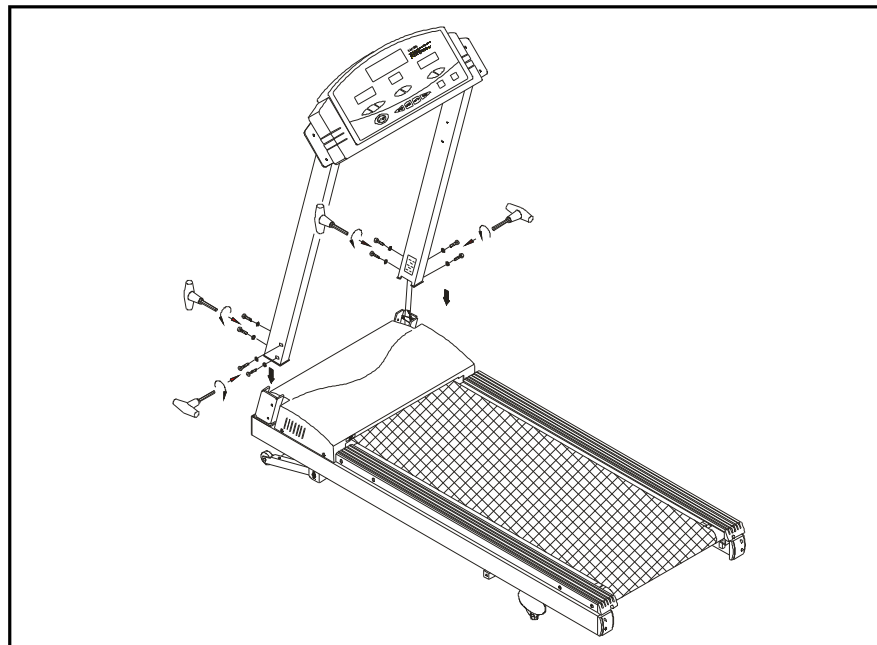

Fig.2
4. Insert the two lift posts into their respective sockets and secure with four bolts and washers provided on each side (see Fig. 2).